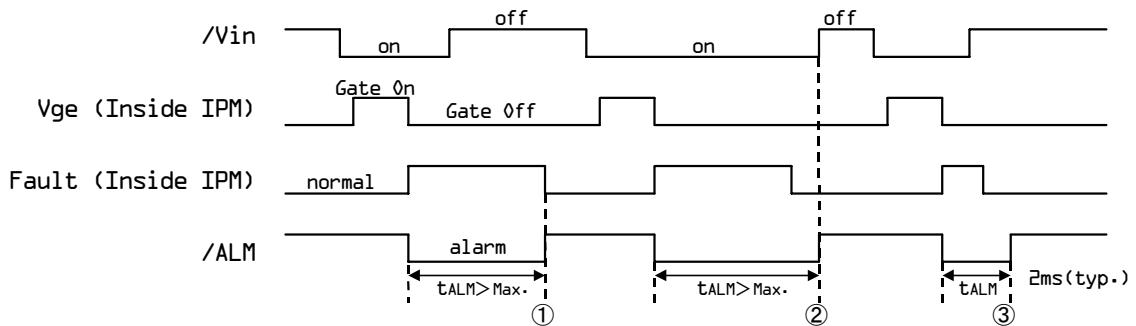

Figure 2. Input/Output Timing Diagram
Necessary conditions for alarm reset (refer to ① to ③ in figure2.)
- ① This represents the case when a failure-causing Fault lasts for a period more than tALM.